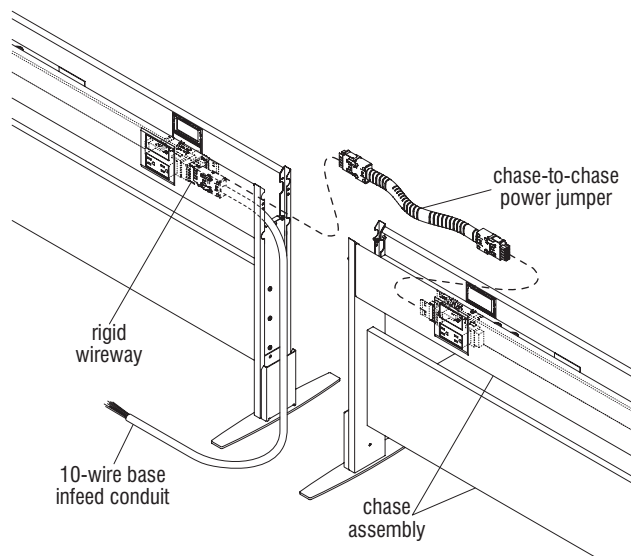

Figure 11 - Middle Base Infeed Power
conduit into the rigid wireway end, then let the 10-wire end rest out the side of the two chase units where the base feed will enter (Figure 11).
2. At the other socket location in the same rigid wireway, plug in a chase-to-chase power jumper, routing the other end of the jumper over and plugging it into the rigid wireway of the second (right-hand shown) chase assembly (Figure 11).